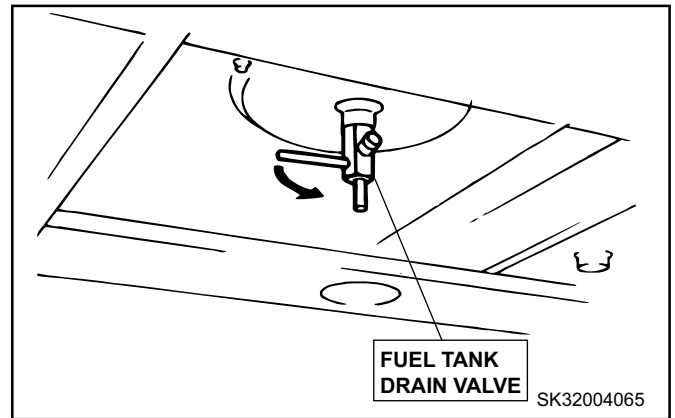

FIGURE 4.26A
Drain the fuel tank every 50 hours or weekly. See Figure 4.26A.
2. Locate and open fuel tank drain valve on bottom of fuel tank. See Figure 4.26A.